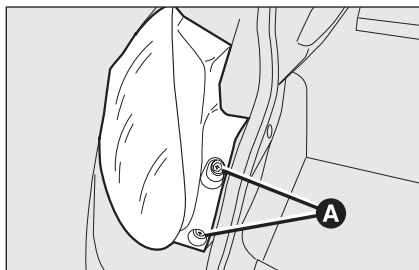

fig. 27
- open the tailgate then, slacken the two fastening screws **A-fig. 27**;